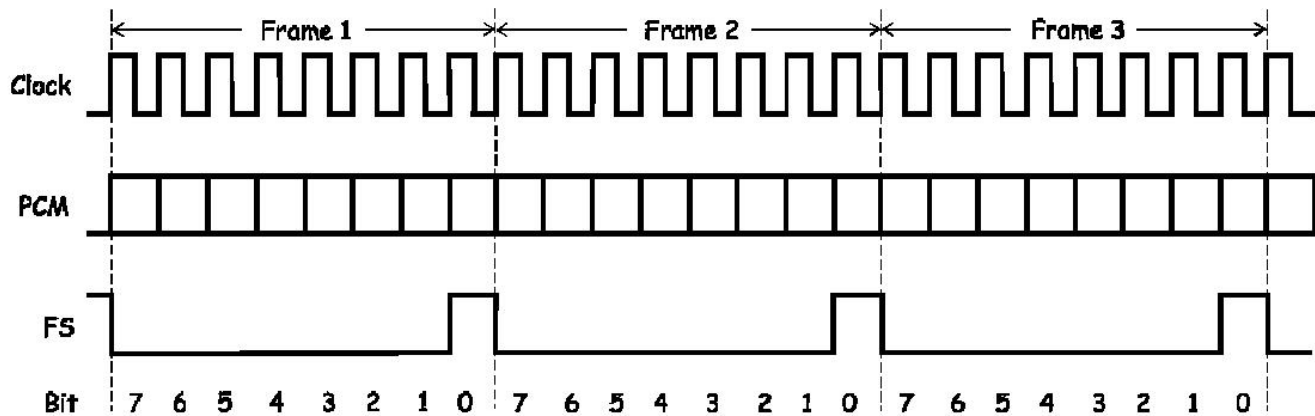

Figure 1:
With eight bits, it's possible to produce 256 different numbers between 00000000 and 11111111 inclusive. This in turn means that there are 256 quantisation levels (one for each number). Each binary number is transmitted in serial form in frames. The number's most significant bit (called bit-7) is sent first, bit-6 is sent next and so on to the least significant bit (bit-0). The PCM Encoder module also outputs a separate Frame Synchronisation signal (FS) that goes high at the same time that bit-0 is outputted. The FS signal has been included to help with PCM decoding but it can also be used to help 'trigger' a scope when looking at the signals that the PCM Encoder module generates. Figure 1 shows an example of three frames of a PCM Encoder module's output data (each bit shown as both a 0 and a 1 because it could be either) together with its clock input and its FS output.